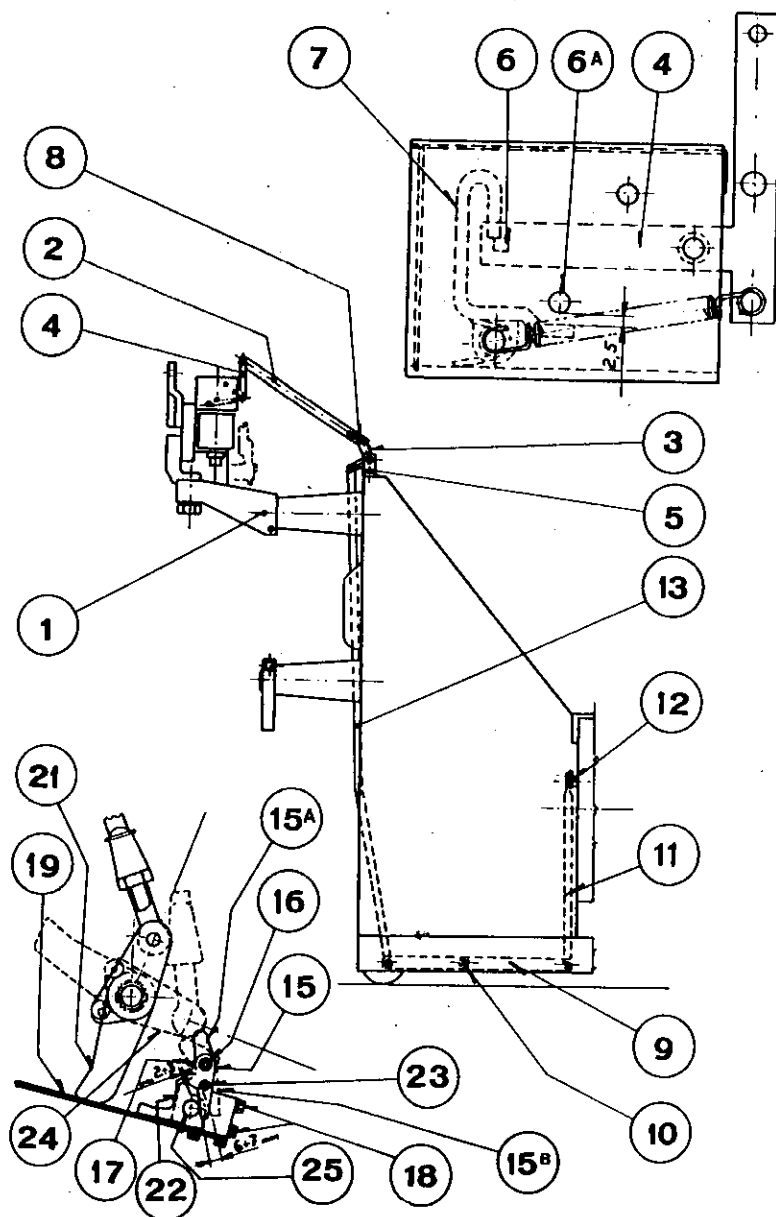

Fig. 15
8.1. Fitting and adjustment of overcurrent releases types MF, MFSP, MO, MOSP (fig 15)